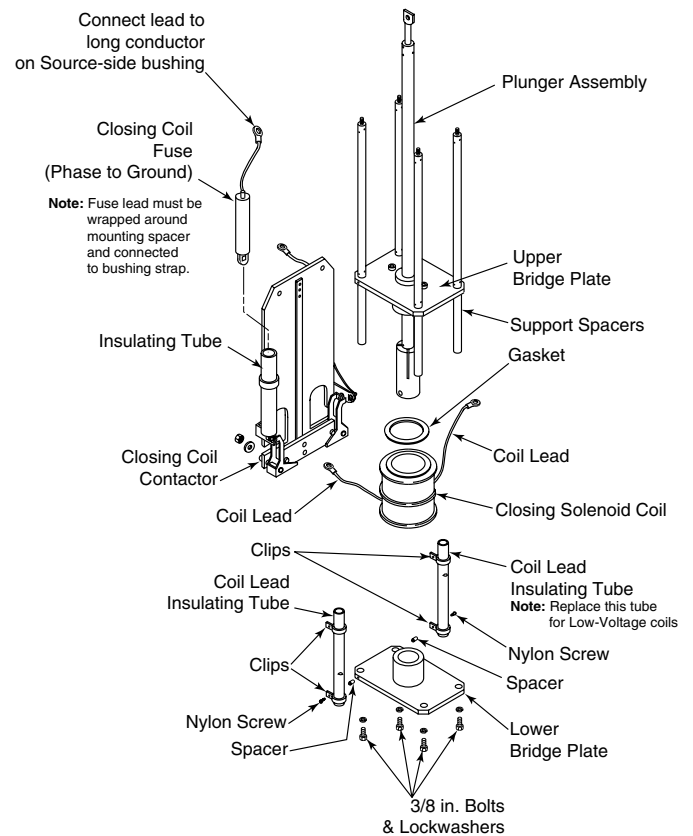

Figure 12.
If the closing coil has been damaged or if the recloser is to be changed to a new rating, the closing coil and fuse must be replaced. For replacement, refer to Figure 12 and the following procedure:
9. Disconnect the fuse lead from the long conductor on the *source* side bushing (Figure 12).
10. Pull the fuse lead through the insulating tube (Figure 12) and unwind from mounting spacer.
11. Disconnect the fuse from the closing coil contactor (Figure 12) by removing the nut and washer.